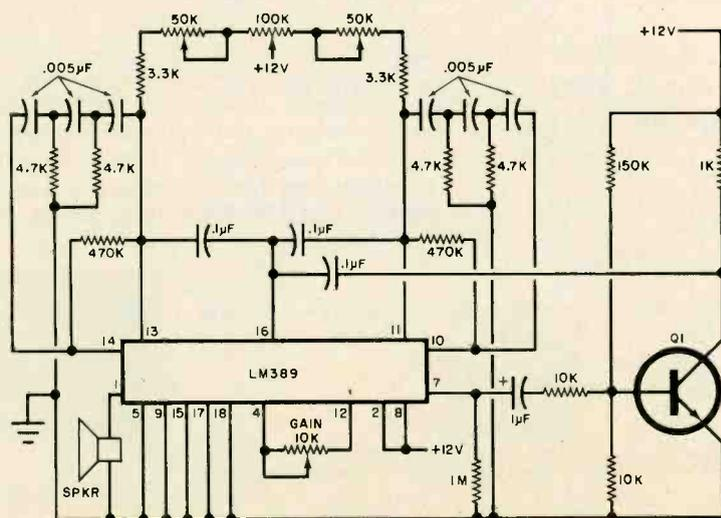

Fig. 3. Inexpensive circuit for a model train steam whistle sent in by a reader.
**Reader's Circuit.** You may have been intrigued by Harold Wright's *Model Railroad Sound Synthesizer* in last December's issue but would rather tackle something a little simpler for a start. If so, you might like to try the inexpensive model train steam whistle circuit shown in Fig. 3. Submitted by reader Ralph O. Bentley (606 Lake View, South Milwaukee, WI 53172), the circuit requires only two active devices, an LM389 IC and a small general-purpose npn transistor, Q1. Designed for operation on a standard 12-volt dc source, the circuit can be assembled on perf board. The LM389 was described in our September, 1976 "Solid State" column. Manufactured by the National Semiconductor Corporation (2900 Semiconductor Drive, Santa Clara, CA 95051), the device comprises three uncommitted general-purpose transistors and a ten-transistor low-power audio amplifier in an 18-pin DIP.